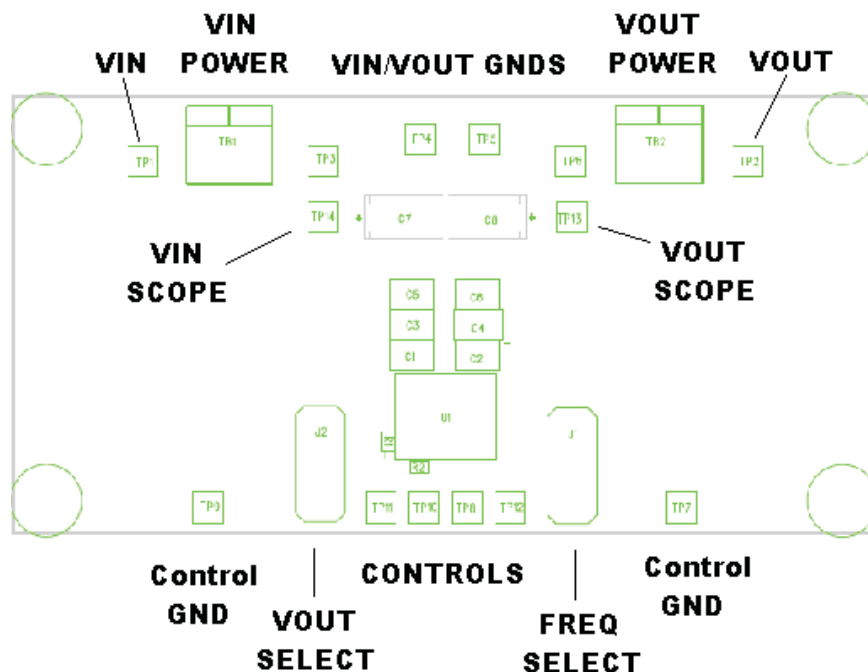

**Figure 1. TPS84x10EVM-00x User Interface**
**Figure 1** highlights the user interface items associated with the EVM. The polarized  $V_{IN}$  Power terminal block is used for connection to the host input supply and the polarized  $V_{OUT}$  Power terminal block is used for connection to the load. The terminal blocks can accept up to 16 AWG wire.